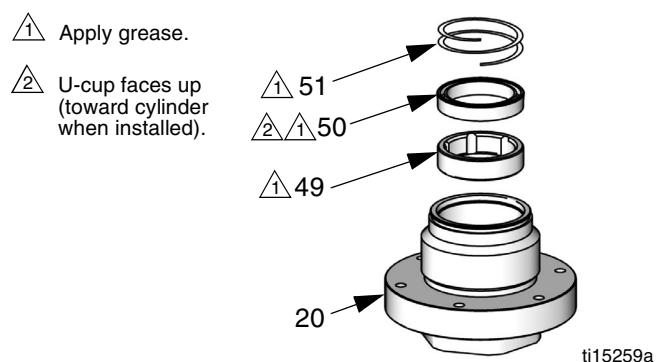

FIG. 11. U-Cup throat seal
13. **U-Cup Models:** Use an o-ring pick or pliers to remove the spring clip (51), the u-cup (50), and the bearing (49). FIG. 11, page 13.
14. Remove and discard the packing nut top o-ring (2) and bottom o-ring (21).
15. Put the hex of the piston rod (31) in a vise. Use a 1/2 in. hex wrench to remove the flow-through nut (44) from the bottom of the piston (45).
16. Remove the o-ring (32) and seat (46). Remove from vise and tip out the check ball (47).